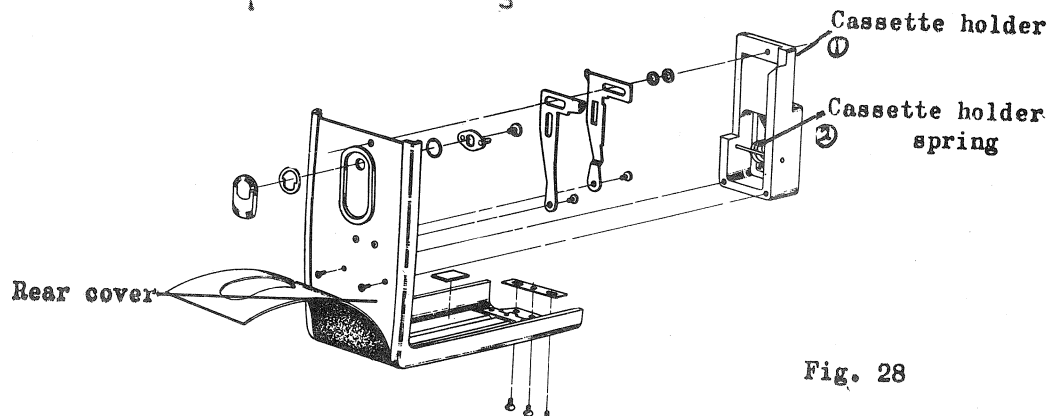

Fig. 28
- d-3-4. In the case of d-3-2, replace the spring attached to the rear cover cassette holder ((1) in Fig. 28).